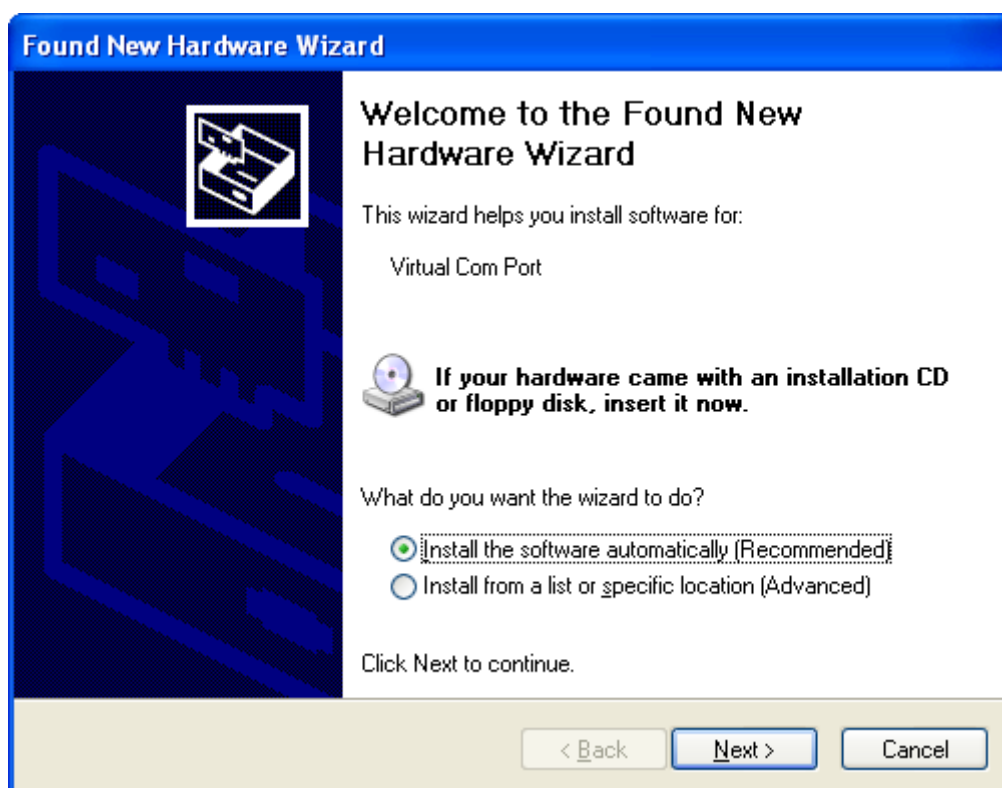
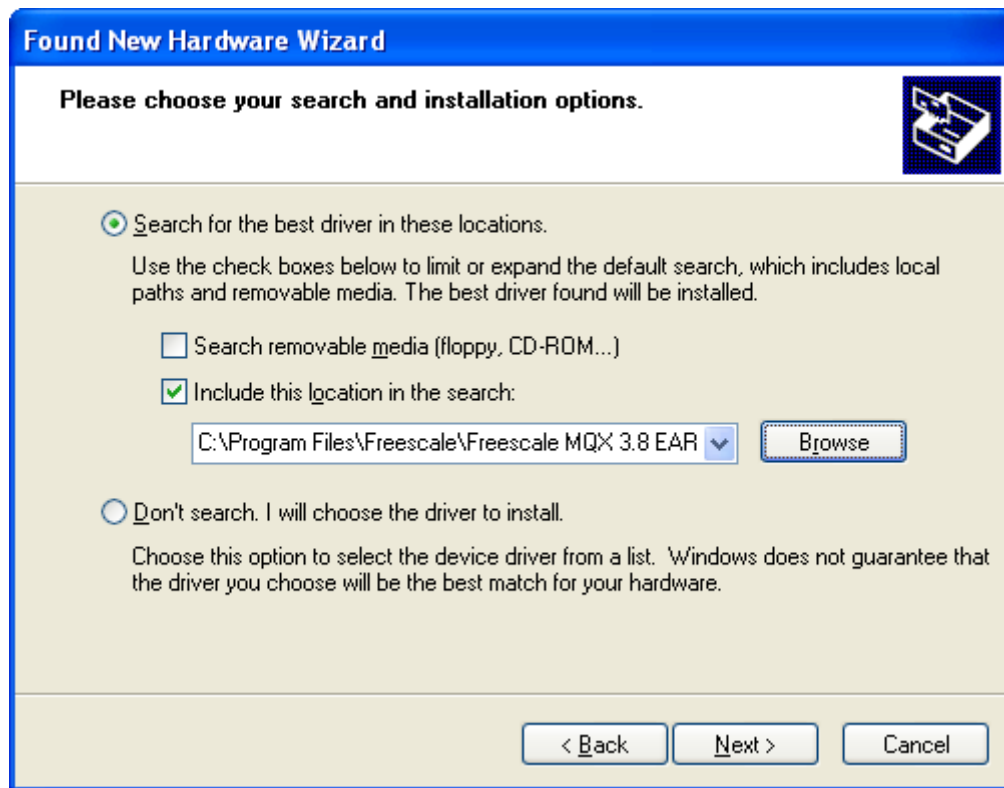

Figure C-1. Found New Hardware window
Figure C-2. Search and installation options
2. Select “Install from a list or specific location (Advanced)” option as shown in Figure C-1, and click on the “Next” button. “Search and installation options” window appears as shown in Figure C-2.
Point the search path to the inf directory as shown Figure C-2 and click on the “Next” button. The driver for the device will get installed. To verify the installation, open the device manager. You should see the FSL Virtual COM Port device entries.